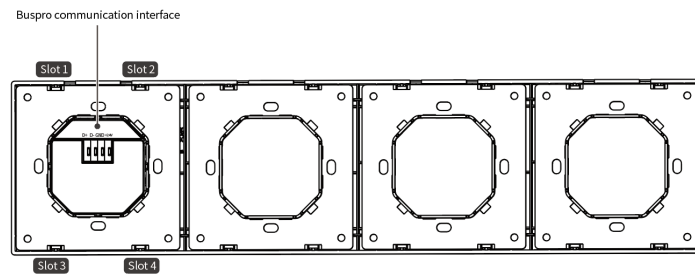

Figure 7
1. For multi-gang installation, use the multi-gang bracket and Busprocommunication interface should face upwards during installation. (see Figure 7&8)